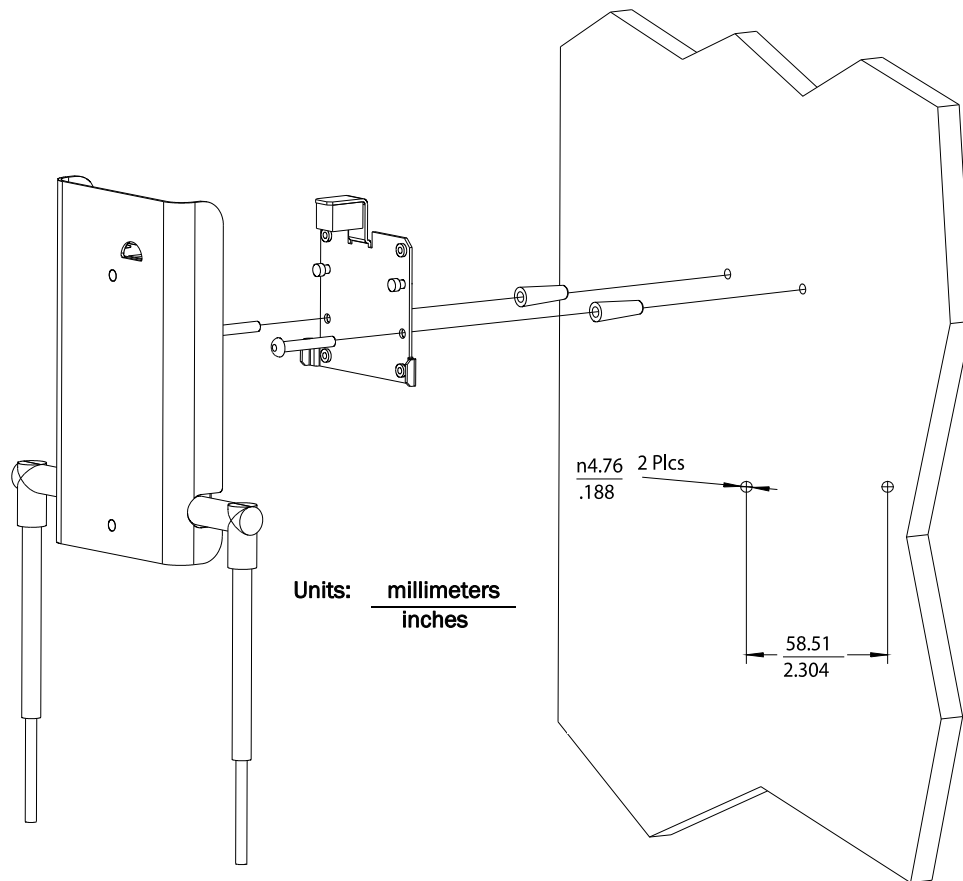

Figure 2-17: Mounting the IntelliVue Smart-hopping 1.4 GHz RA to a Wall (CA Earthquake Rated)
1. Using a 3/16-inch drill bit, drill two pilot holes 0.188 inches (5 mm) in diameter at the locations shown in Figure 2-17.
3. Secure the quick release wall plate to the wall by screwing a supplied #6 x 1 1/4 inch self-tapping screw through the wall plate into each screw anchor (or pilot hole) as shown in Figure 2-17.
4. While holding the RA chassis with its antennas pointing down as shown in Figure 2-17, fit the openings in the back of the RA chassis over the two mounting studs that protrude from the wall plate, and then slide the RA chassis down so that the mounting studs are securely in the grooves in the back of the RA chassis.